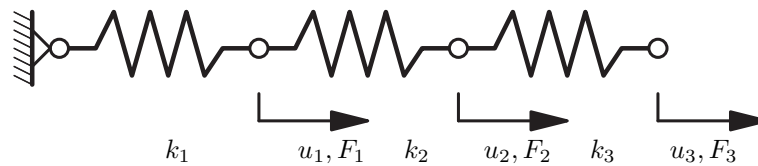

Figure 4: 3 variable system
1. **Potential energy for a 3 spring system** The expression for the matrix  $\mathbf{K}$  of the system constructed from 3 springs shown in Figure 4 is,